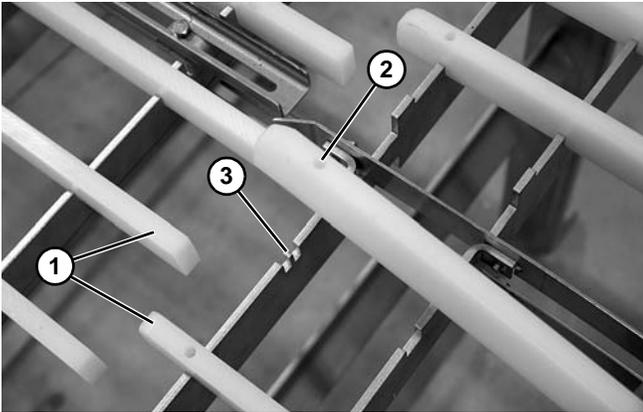

Figure 37
2. Remove worn wear strips (**Figure 37, item 1**) from the frame notches.
3. Attach new wear strips by installing the locating hole (**Figure 37, item 2**) over the tab (**Figure 37, item 3**) on the crossmember.